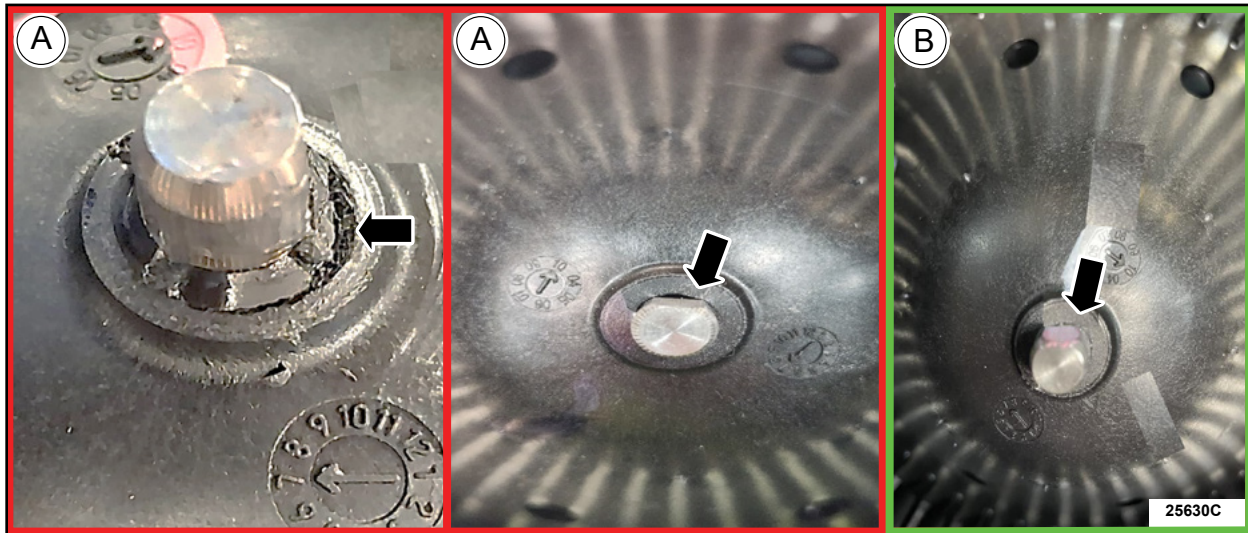

FIGURE 3
5. Inspect below the retaining clip for damage. Damage can include signs of melted plastic, plastic burrs, and the wheel hogged out. See Figure 3.